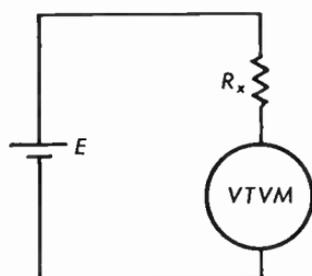

Fig. 12.21 Vacuum-tube voltmeter hook-up for measuring resistance.
**12.21** A vacuum-tube voltmeter with an input resistance of 10 megohms is used to measure an unknown resistor by the circuit indicated in Figure 12.21.  $E = 6.3$  volts, the voltmeter reading is 1.2 volts. What is the resistance of  $R_x$ ?